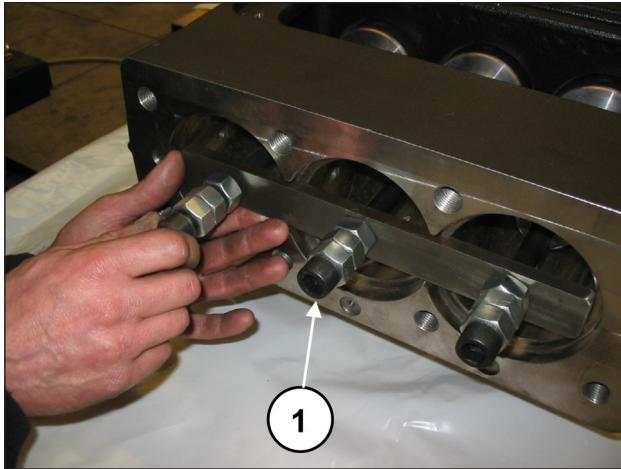
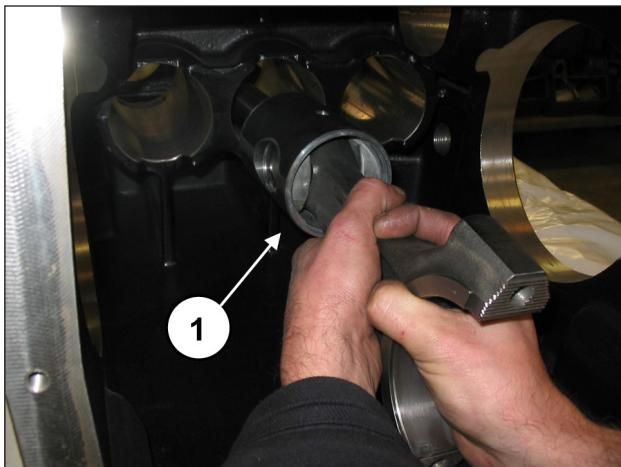

Fig. 40
Fig. 41
Unscrew the screws with tool code 27566200 to unlock the conrods (pos. ①, Fig. 40) and then extract the conrod-piston guide units from the casing rear opening (pos. ①, Fig. 41).
After having checked casing cleaning, proceed with assembly of the half conrod-piston guide unit inside casing rods (pos. ①, Fig. 41).
Block the three units with the use of special tool code 27566200 (pos. ①, Fig. 40).
Remove the tool for blocking the conrods code 27566200 (pos. ①, Fig. 40) and roll back the conrods until they touch the crankshaft.